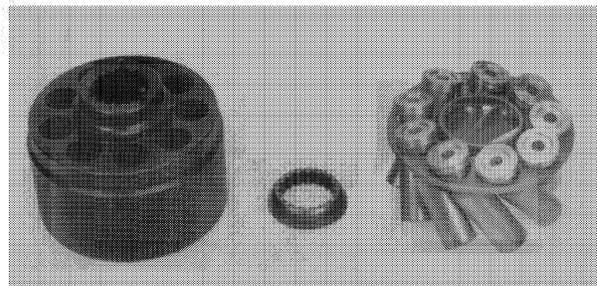

FIGURE 4-18
4. Piston and Shoe Assemblies (Figure 4-18)